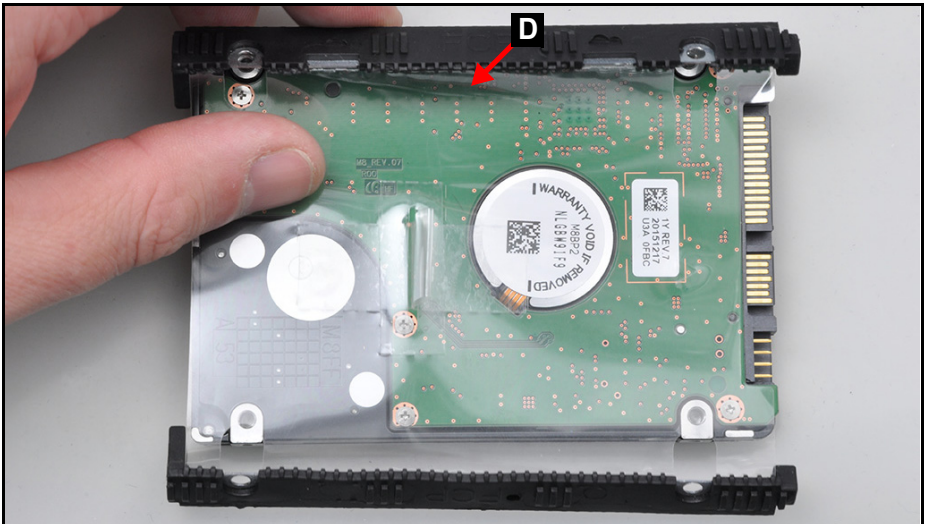

Figure 3-12. HDD Bracket with Mylar Removal
4. Grasp and remove the HDD brackets with mylar (D) (Figure 3-12).